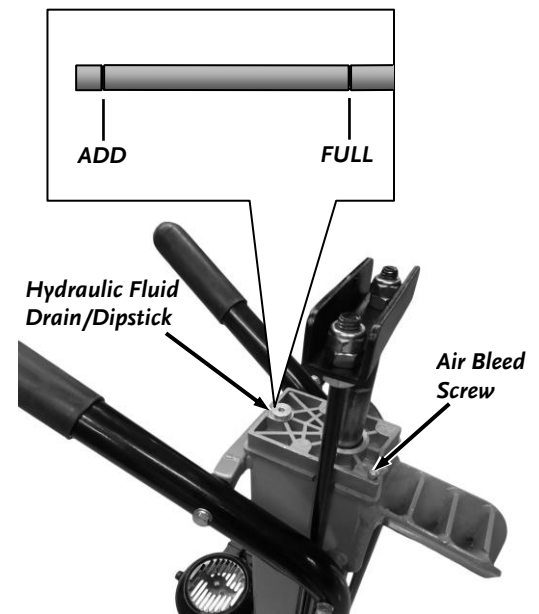

Figure 12
1. Check the hydraulic fluid level by tipping the machine up vertical on the Wheels and Control Lever Guard (place a block under the Control Lever Guard so the weight is not on the Control Lever). You may need to have someone support the Electric Log Splitter to prevent tipping over. Clean the area around the Hydraulic Fluid Fill/Drain Port (**Figure 12**) and then, using a 6mm Allen Wrench, unscrew and remove the Dipstick located in the Hydraulic Fluid Fill/Drain Port.